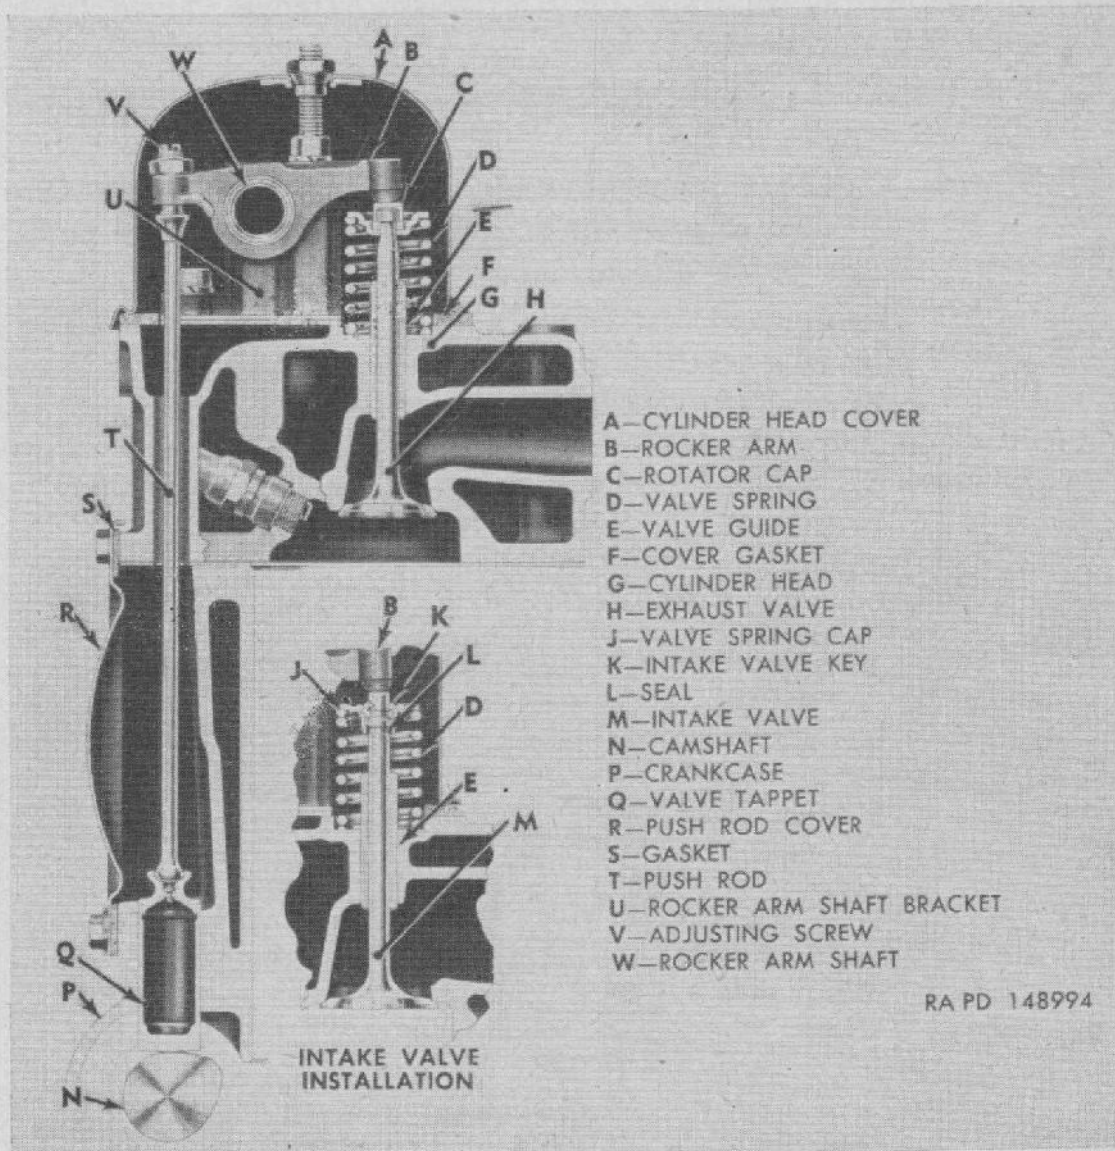
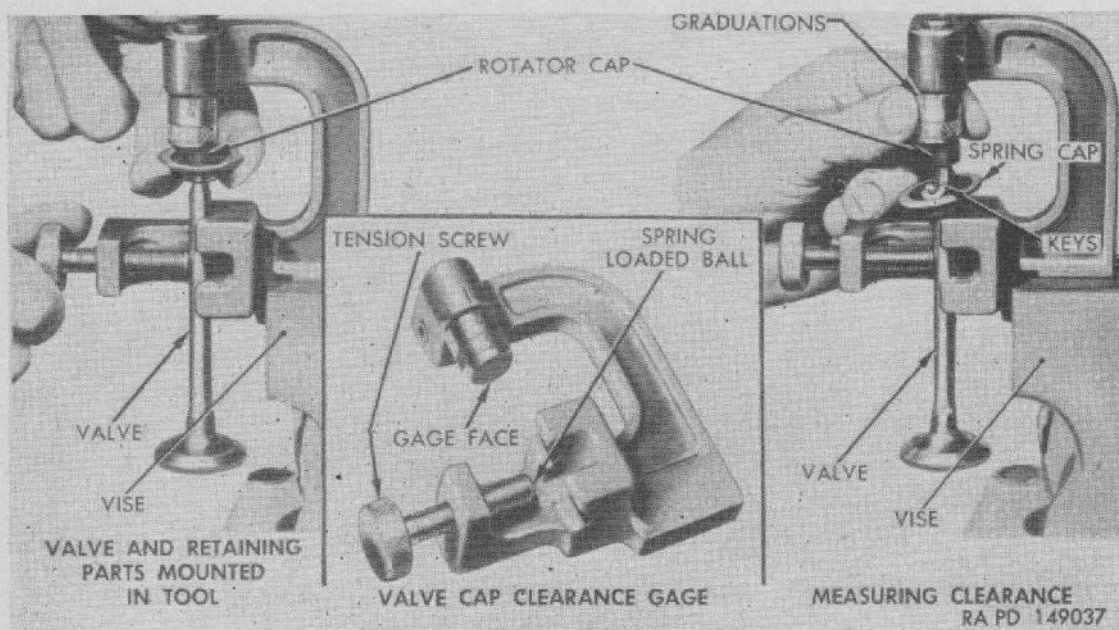
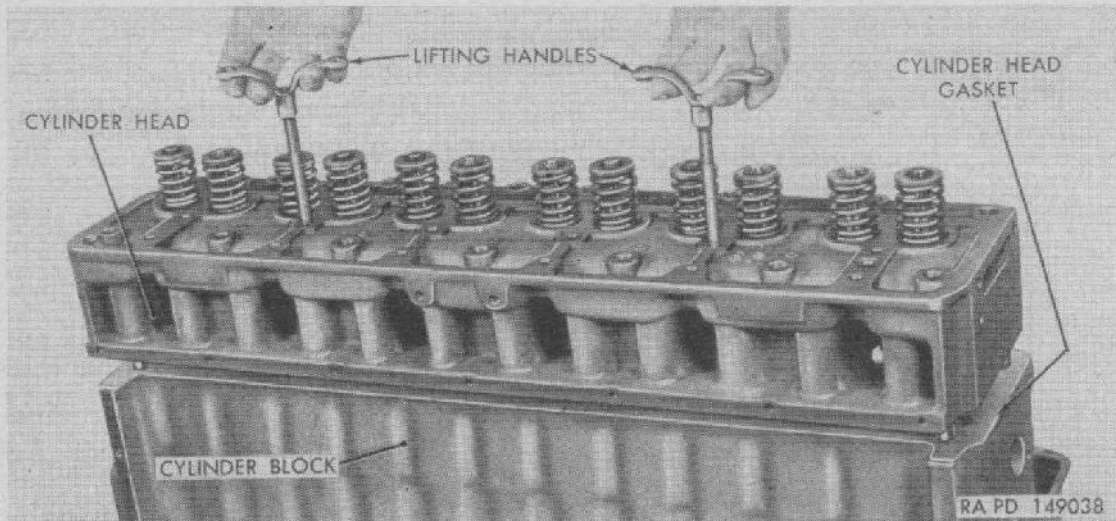

Figure 31. Valve operating mechanism.
Figure 32. Checking rotator cap to valve stem clearance using gage 7950058.
Figure 33. Installing cylinder head.
- (7) Install crankcase ventilation valve fitting at intake manifold. Install valve assembly and connect ventilation tube at valve.
- (8) Install carburetor control idler shaft, levers, and bracket assembly on manifold.
- (9) Install carburetor (par. 112*d*).
- (10) If it has been necessary to move air compressor during manifold replacement, adjust drive belt as instructed in paragraph 229*a*.
a. GENERAL. Cylinder head is held to top surface of engine cylinder block by 15 bolts. Valves and spark plugs are installed in cylinder head, and valve rocker arms are assembled on hollow shaft supported by six brackets bolted to top of cylinder head. Rocker arms are enclosed by cylinder head cover. Intake and exhaust manifold assembly is mounted on left side of cylinder head. *Figure 31* illustrates valve and rocker arm installation as well as other items related to valve operation. Exhaust valves are equipped with rotator (free valve) mechanism, which permits valves to turn while valves are open.
- (1) Open drain cock at bottom of radiator core and drain cooling system to point below cylinder head. Complete draining of system is not necessary.
- (2) Remove water by-pass line installed between cylinder head and tee fitting at engine thermostat housing.
- (3) Remove manifold assembly (par. 95b).
- (4) Remove radiator upper hose, loosen clamps at water pump by-pass hose. Remove bolts attaching generator and air compressor adjusting arms to engine thermostat housing. Disconnect engine temperature sending unit cable at connector on unit. Remove two thermostat housing-to-cylinder-head bolts and remove thermostat housing and gasket assembly from engine.
- (5) Disconnect oil line at front of cylinder head.
- (6) Remove spark plug wires from spark plugs and spark plugs from cylinder head (par. 109a).
- (7) Remove oil filter assembly (par. 98c). Remove transmission cooler front return line and front section of flywheel housing vent line.
- (8) Remove screws attaching push rod cover to engine and remove cover and gasket.
- (9) Remove cylinder head cover nuts, lift off cover, and remove gasket. Remove eye nut from special head bolt at left side of cylinder head.
- (10) Remove rocker - arm - shaft - bracket - to - cylinder - head bolts and washers; remove nuts and washers from cylinder head cover studs. Remove rocker arm, shaft, and bracket from cylinder head. Overflow pipe and gasket are held by long bolt at fourth bracket.
- (11) Remove 12 push rods from holes in cylinder head.
- (12) Remove 15 cylinder head bolts. Lifting handles for cylinder head may be installed on long studs (fig. 33) to facilitate cylinder head removal. Remove cylinder head and gasket from cylinder block.
- (1) *Valves removal* (fig. 31). Remove valve rotator caps (C) from exhaust valves (H). Compress valve springs (D). Remove intake valve keys (K) and seals (L). Exhaust valves are retained in similar manner but no seals are used on exhaust valve stems. Remove spring caps (J) and springs (D), then remove valves from cylinder head.
- (2) *Inspect parts and check rotator-cap-to-valve-stem clearance.*
- (b) Using exhaust-valve-cap-clearance gage 7950058 (fig. 32) accurately check clearance between rotator caps and exhaust valve stems. Correct clearance is 0.004 to 0.0045 inch. Use gage as follows:
- (3) *Valve installation* (fig. 31). Coat valve stems with engine oil and install valves in cylinder head. If head and valves have not been reconditioned, valves should be installed in original position in cylinder head. Place head and valves in fixture and assemble springs, spring caps (J), new seals (L), and keys (K) on intake valves. Assemble springs, spring caps, and keys to exhaust valves, and place rotator cap on each exhaust valve.
- (1) Place new cylinder head gasket on engine cylinder block. Word "TOP" is imprinted on upper side of gasket. Screw two guide pins into bolt holes in cylinder block to hold gasket in position and guide cylinder head into place. Place cylinder head over guide pins (fig. 33) and lower head into place on gasket. Remove guide pins and install cylinder head bolts finger-tight.